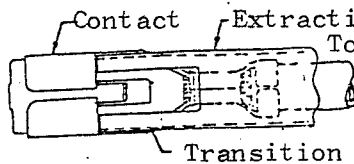

Fig. 2
- (a) Insert tip ends of the tool into housing from the wire side of housing, until they reach the contact feeling lightly. At this moment, the tip ends must rest on the transition area of contact. Refer to Fig. 1 and Fig. 2.